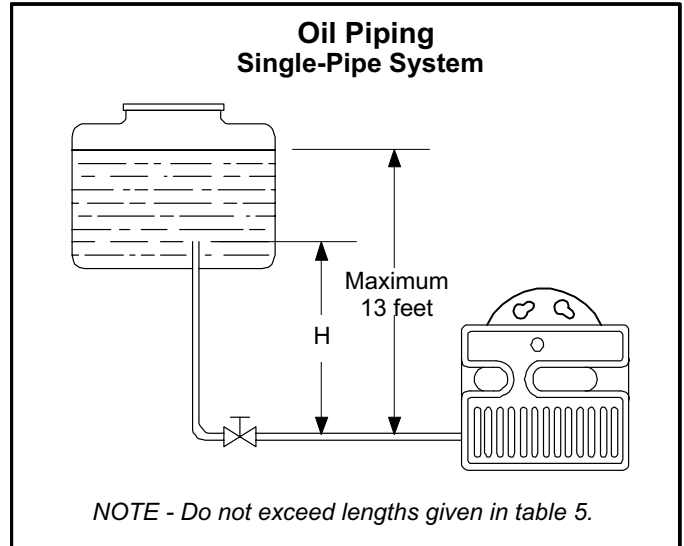

Figure 18
- 1 - Size the oil piping in a single-pipe system per table 5 and figure 18.